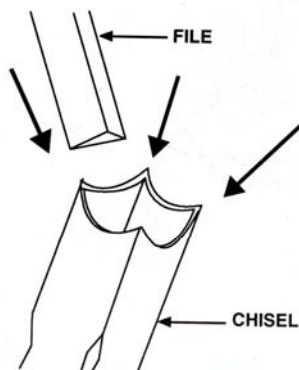

FIGURE 9
- Use a small, triangular, smooth file to relieve the inner corners of the chisel. See figure 9.